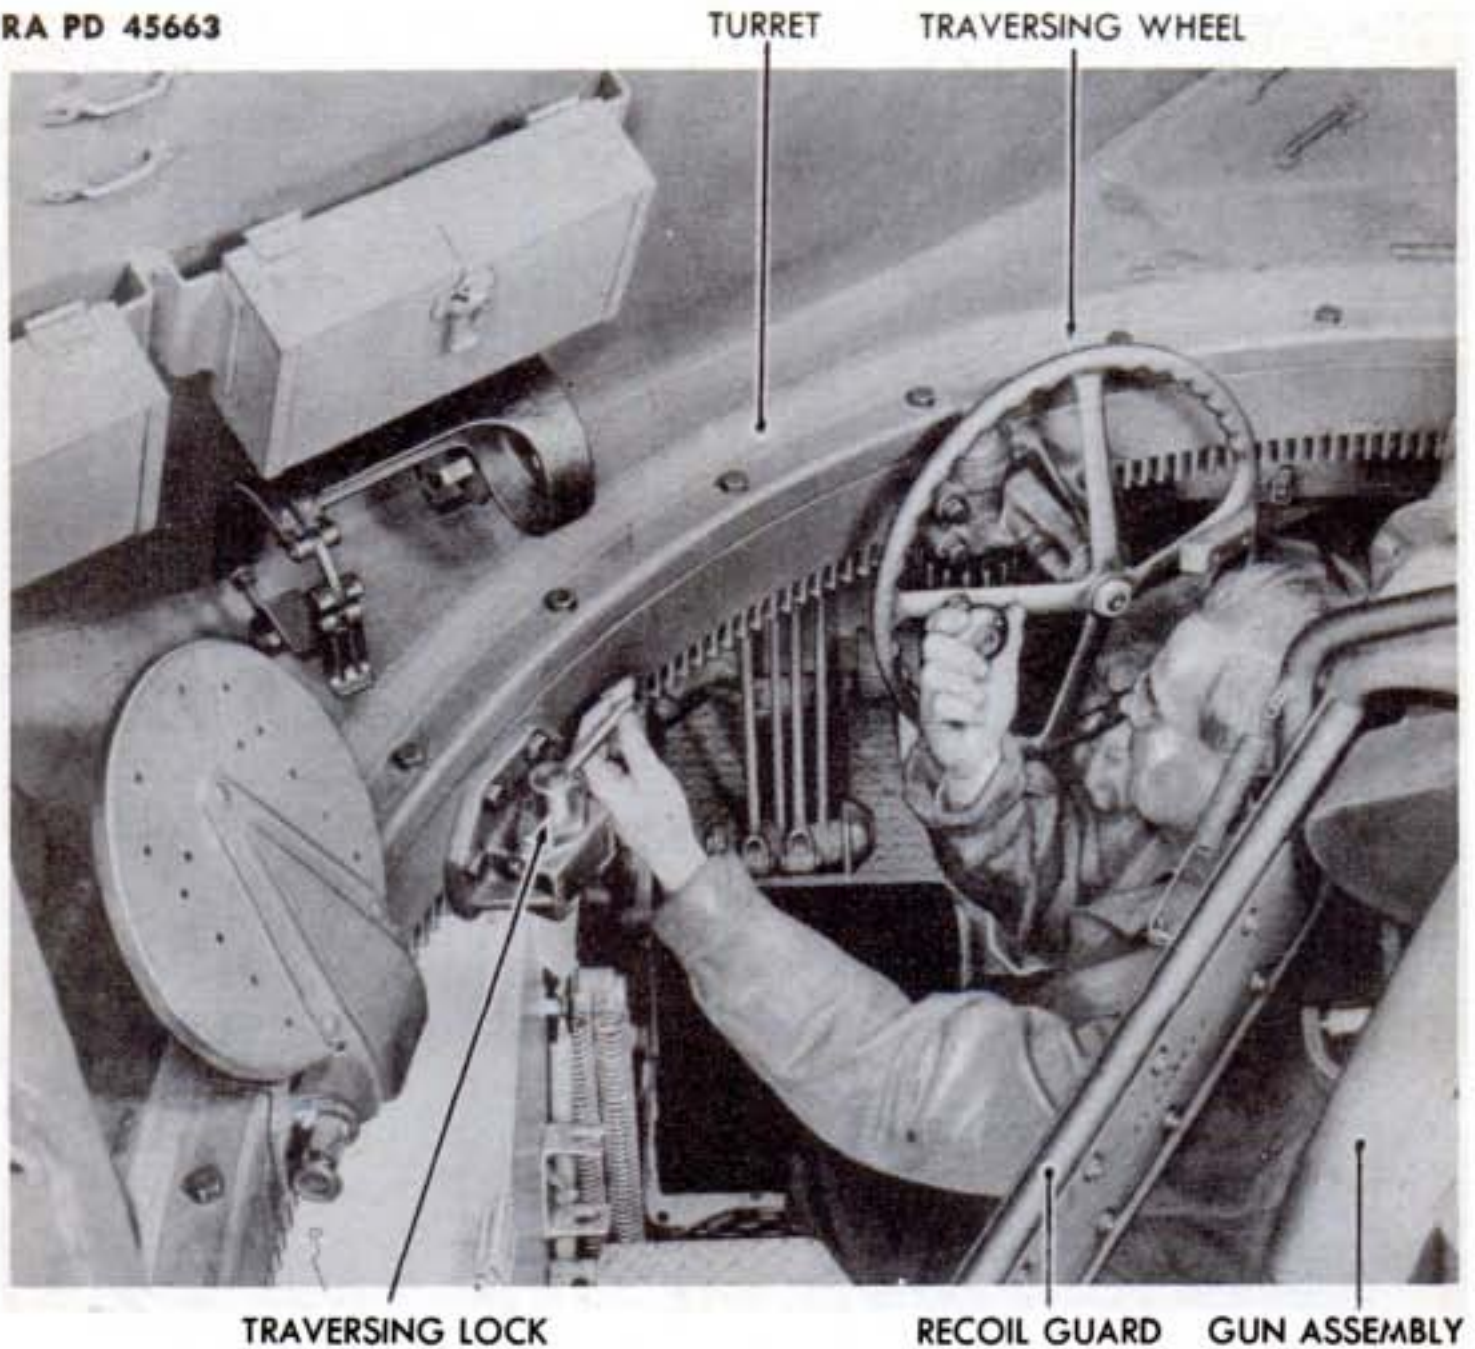

Figure 183—Traversing Wheel and Lock, Left Side
c. There are two traversing locks, one on the left side to the rear of the traversing wheel (fig. 183) and the other on the right side to
a. The traversing wheel is located on the left side of the turret at the hull (fig. 183). Traversing is accomplished by turning the traversing wheel either to the right or to the left. Complete traverse of 360 degrees can be obtained.
b. Turn traversing lock handles to the rear (figs. 183 and 184), and then turn the traversing handwheel until the tube is over the gun rest (fig. 160). Turn elevating wheel counterclockwise (facing wheel) to depress tube and seat in gun rest. **SAFETY CAUTION:** *Before traveling, inspect and make certain that both of the primary turret traversing locks are securely fastened. Visual inspection should be made of carriages equipped with screw type locks in order to insure positive engagement of both locks. The position of the handle will indicate proper engagement on carriages equipped with eccentric type locks. The traversing mechanism itself acts as an auxiliary turret brake. It is not strong enough, however, to lock the turret securely,*